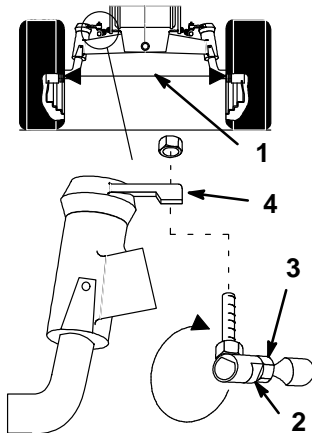

Figure 31
Maintain toe-in of the front wheels as specified. If uneven tire wear, lawn scuffing or hard steering develop adjustment may be required. Check the toe-in after every 100 operating hours or yearly, whichever occurs first (Fig. 31).
3. Measure, between the rims, at spindle level, in the front and rear of the wheels (Fig. 31).
2. Remove ball joint from one steering lever (Fig. 31).